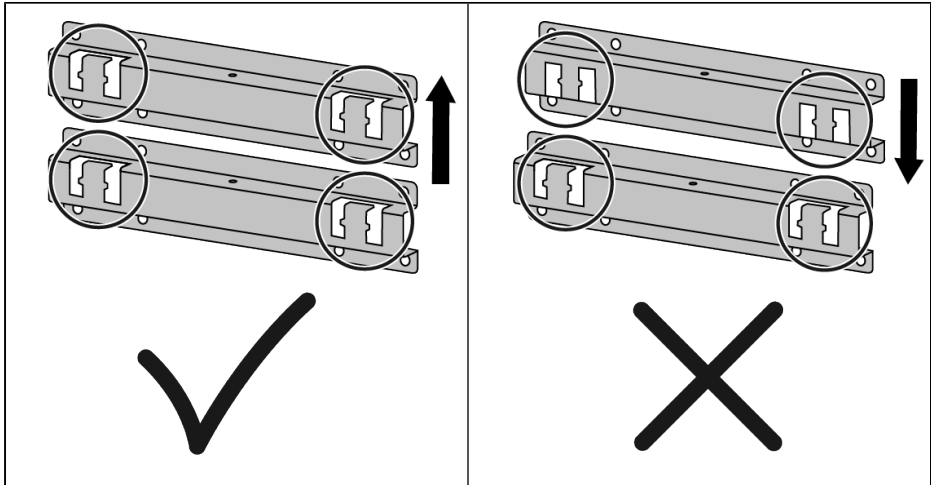
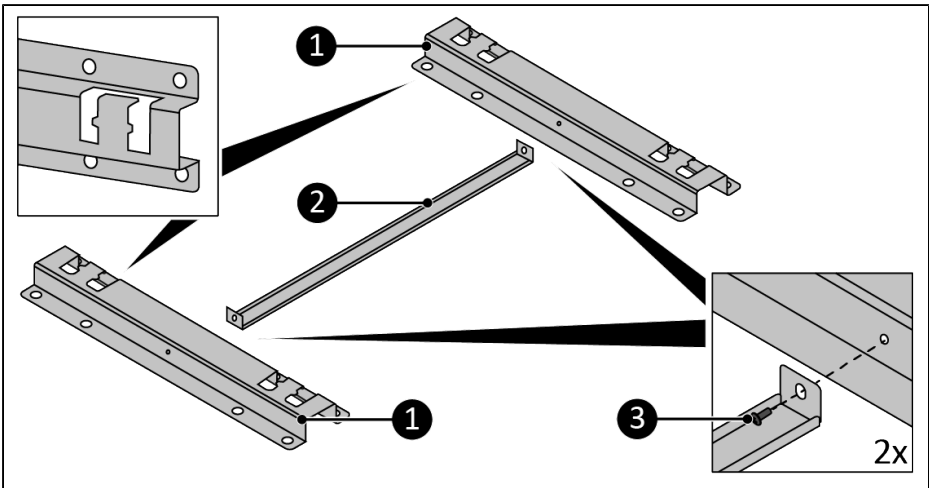

Figure 6.
Figure 7.
Make sure the openings of both brackets point upwards, see Figure 6 and Figure 7 for reference.
1. Mount the distance holder (Figure 7, pos. 2) to the brackets (Figure 7, pos. 1) using the 2 M4 12mm screws (Figure 7, pos. 3).